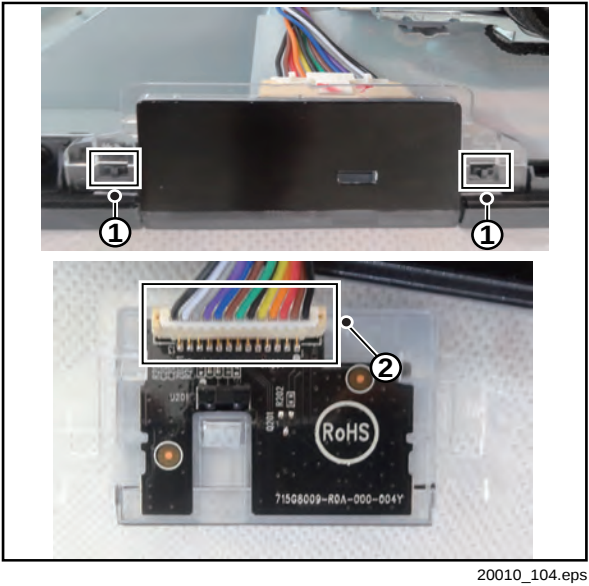
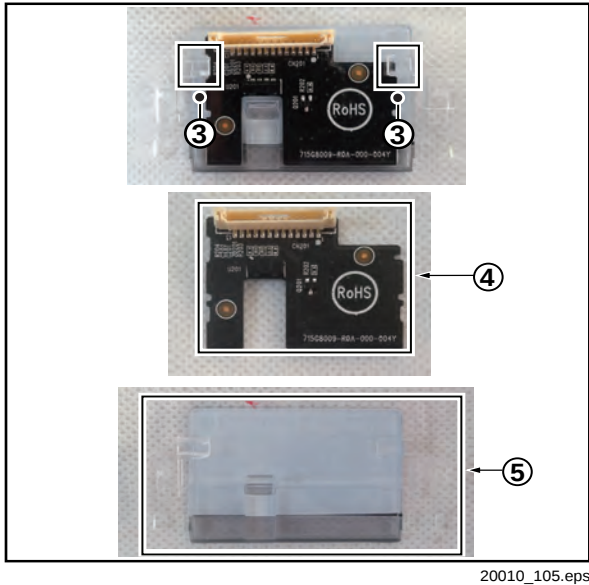

Figure 4-6 IR board Control Unit removal 1
Figure 4-7 IR board Control Unit removal 2
Refer to Figure 4-6, Figure 4-7 for details.
3. Unplug the connector [2] from IR board control unit. Refer to Figure 4-6 for details.
4. Take the IR board control unit with hands, gently use thumbs to press backward the indicated areas [3], the IR board [4] and the IR lens [5] can be detached from the IR board control unit. Refer to Figure 4-7 for details.